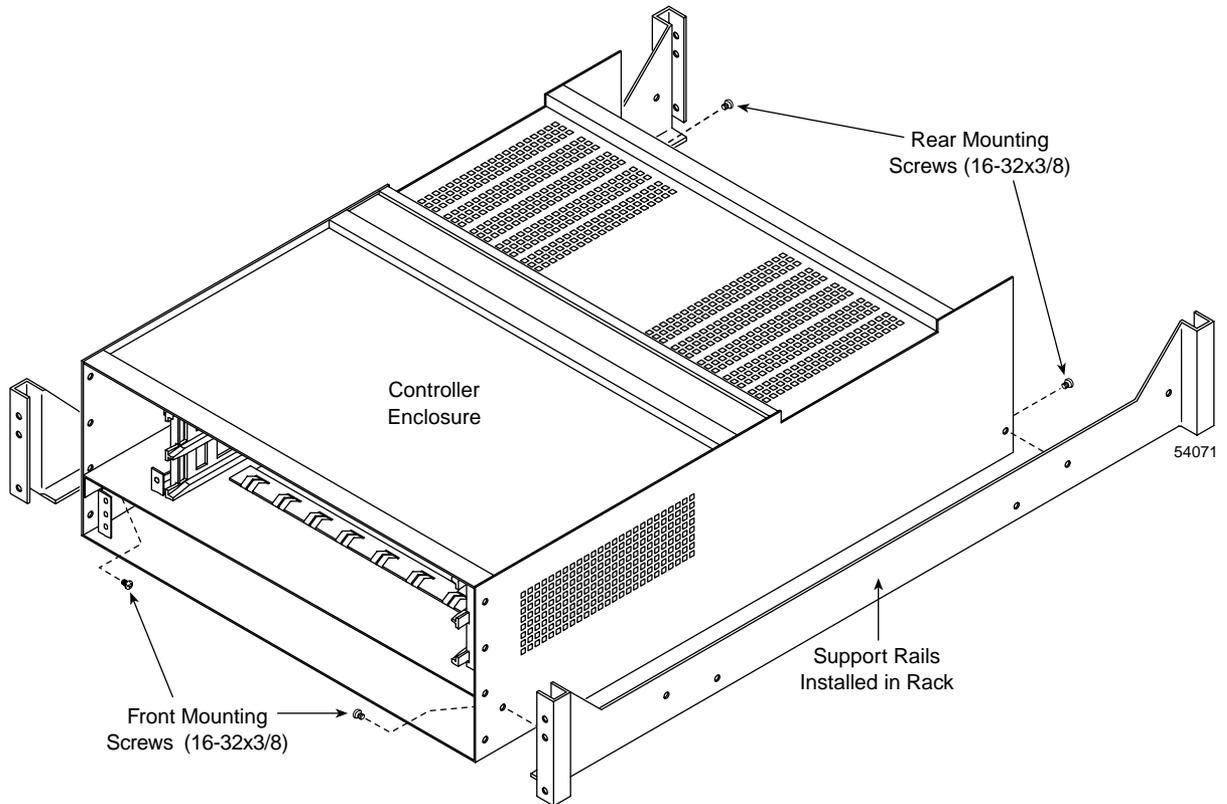

Figure 3-9 Removing the Controller Enclosure from the Rack
3. Remove mounting screws on the front and rear of the enclosure (Figure 3-9). Pull the enclosure out of the rear of the rack. Set it on a level, dry surface.
2. From the rear of the rack, slide the controller enclosure into the rack along the support rails (Figure 3-9).
3. Fasten the rear and front mounting screws (Figure 3-9).